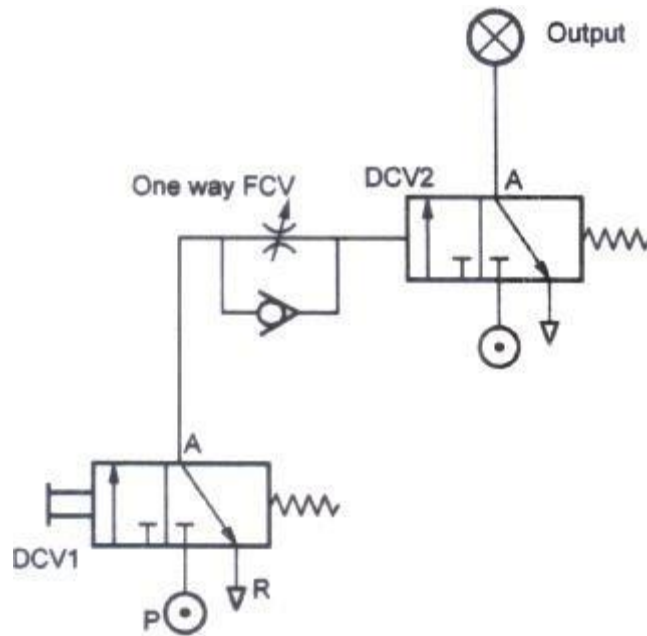

Fig. 5.14 Circuit diagram of an ON signal delay circuit
a) ON delay timer: The ON delay signal circuit is shown in Fig. 5.14 which delays the output of the next control valve. When control valve DCV1 is operated, the one-way flow control valve will slow down the flow of air, thus delaying the signal output of control valve